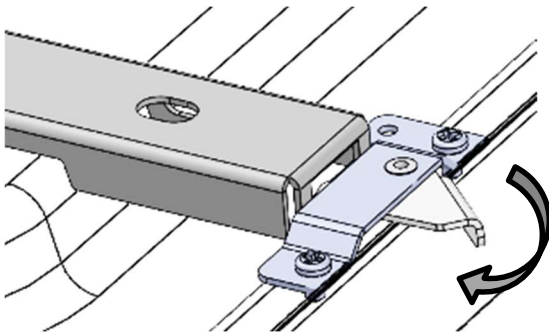

Figure 8A
- Rotate latches into closed position (both latches), see Figure 8A.